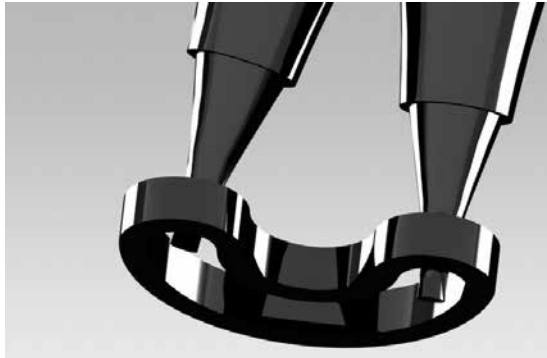

Figure 13
put the diaphragm shaft o-rings (20) in the groove of the centre housing, by forming them as kidney's with locking ring pliers (see Figure 13).